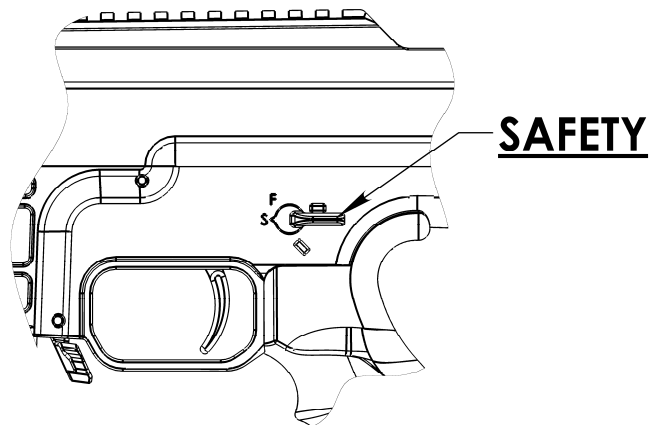

Figure 4. Safety lever to “SAFE”.
2. Rotate the safety lever to the "SAFE" (lever horizontal) position. (Figure 4.)